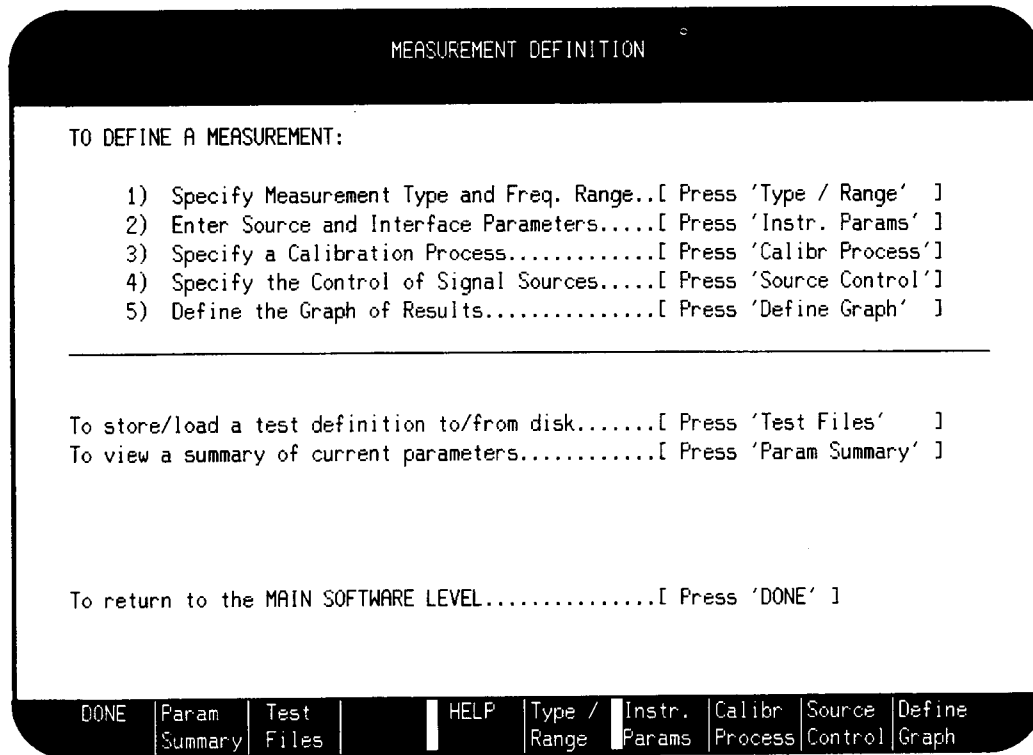

Figure 3-6. Measurement Definition Menu
5. On the HP 3048A press the **Define Msrmnt** softkey to obtain the Measurement Definition menu. Refer to figure 3-6.